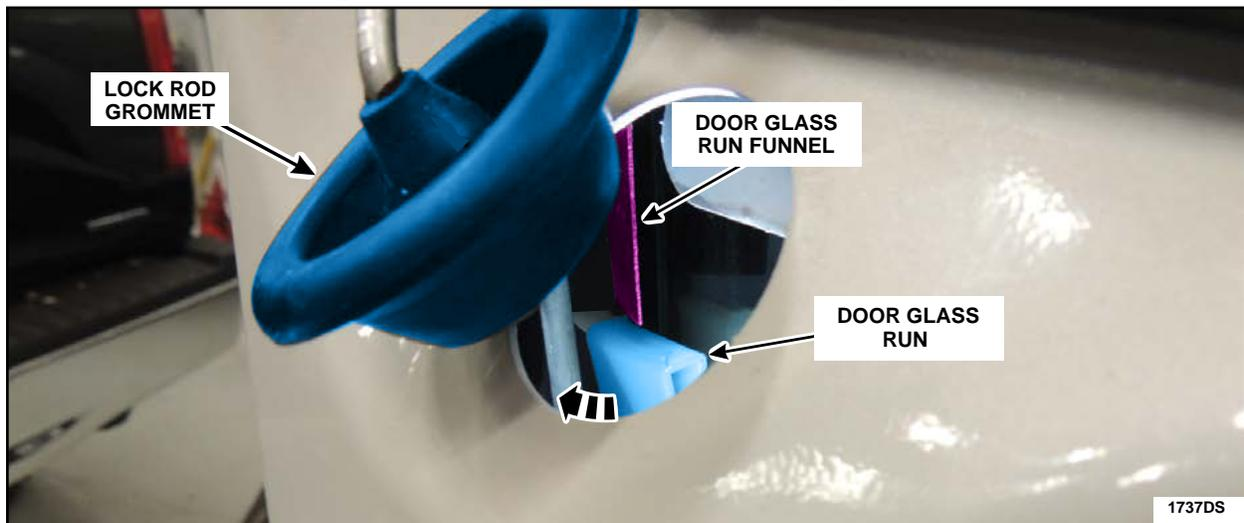

FIGURE 25
15. Unseat the front door lock rod grommet and visually confirm that the funnel is in the correct position and then reinstall the front door lock rod grommet. See Figure 25.